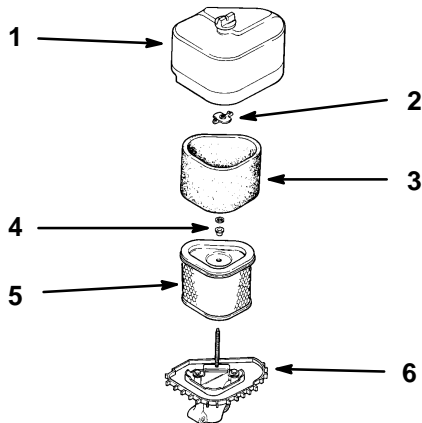

Figure 14
2. Clean around the air cleaner cover to prevent dirt from getting into the engine and causing damage. Unlatch cover (Fig. 14).
3. Carefully slide the foam element off the paper element (Fig. 14).
4. Remove the air cleaner assembly (Fig. 14).
5. Unscrew the cover nut and remove the cover and paper element (Fig. 14).
1. Carefully slide the foam element onto the paper air cleaner element (Fig. 14).
2. Place the air cleaner assembly onto the air cleaner base (Fig. 14).
3. Install the air cleaner cover and secure with cover nuts (Fig. 14).